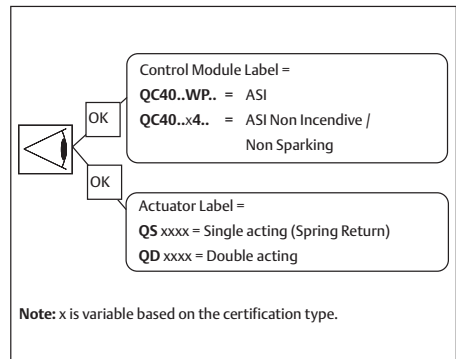

Fig. 2.2 Identification
- \* Check the module label for the right execution (see Figure 2.2)
- \* Check the type of actuator: single or double acting (see Figure 2.2).